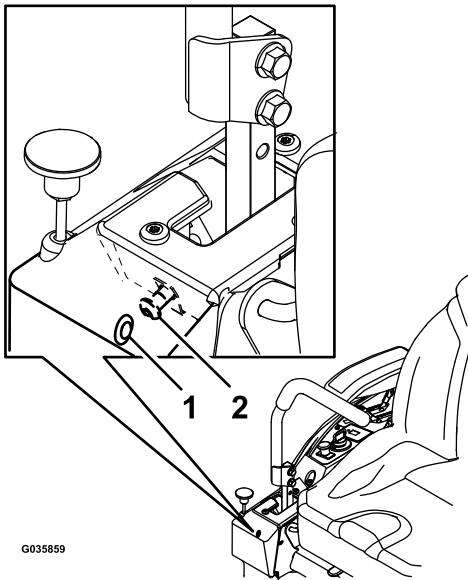

Figure 70
6. If the machine tracks to the right, insert a 3/16 inch hex wrench through the access hole in the right front cover panel and rotate the tracking screw clockwise or counterclockwise to adjust the travel of the lever (Figure 70).
7. If the machine tracks to the left, insert a 3/16 inch hex wrench through the access hole in the right front cover panel and rotate the tracking screw clockwise or counterclockwise to adjust the travel of the lever (Figure 70).